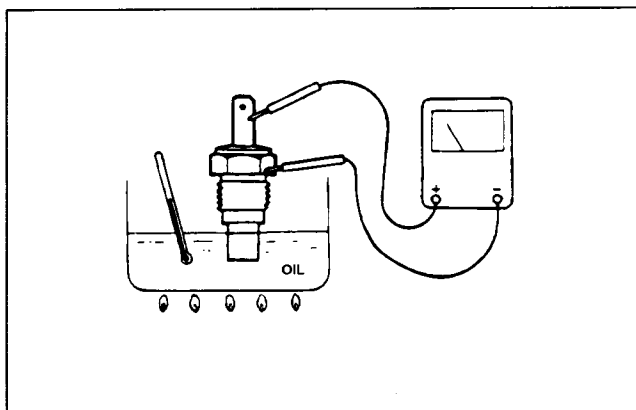

Figure 25
2. Put the switch in a container of oil with a thermometer and heat the oil (Fig. 25).